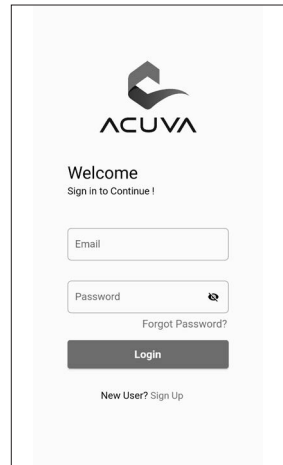

Figure 12: Sign in to the App
- a. Upon installing the application (from the app store), you need to create an account and sign in to the app, as illustrated in **FIGURE 12**.